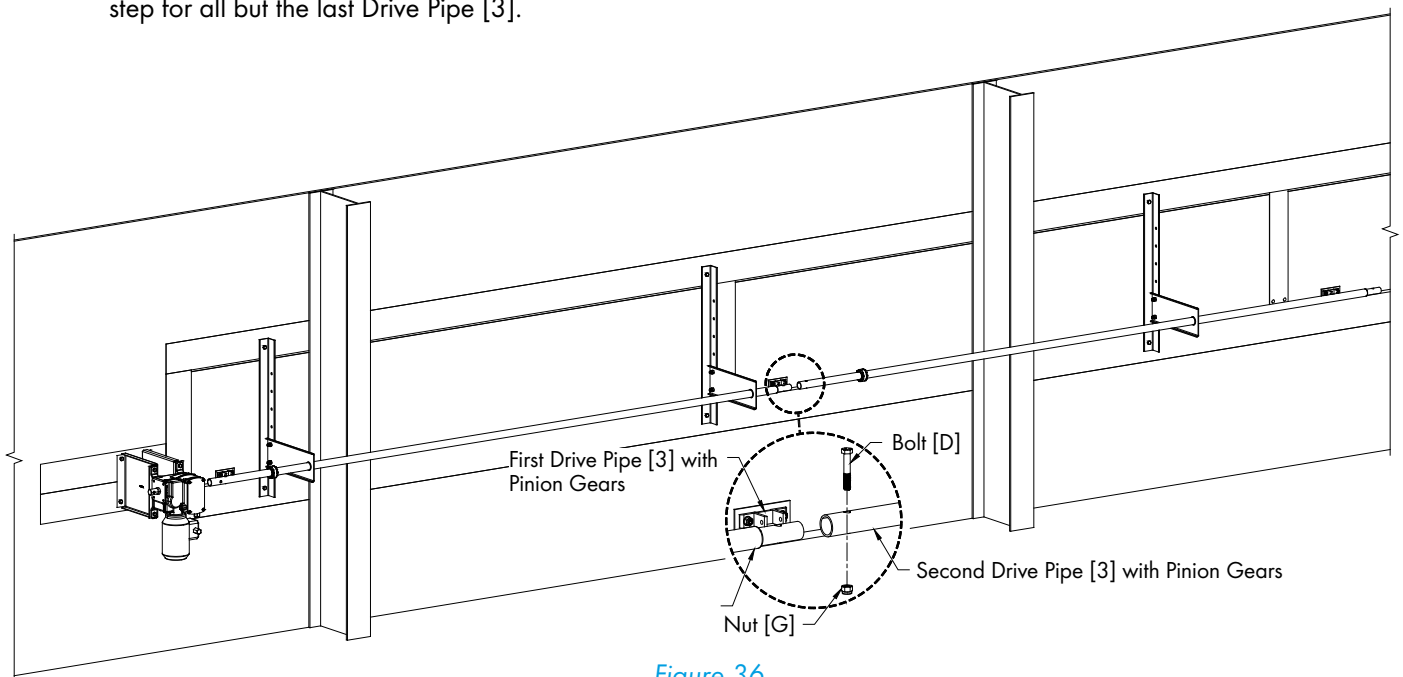

Figure 36
For next Drive Pipe [3] slide (1) Pinion Gear onto Pipe, then slide the swaged end of the Drive Pipe through the next Bronze Bushing in Guide Plate [13]. Then slide the opposite end onto the swaged end of the previous pipe. If needed slide the Pinion Gear past the joint in the pipes to align with the Pivoting Connector. Align the pre-drilled holes and secure pipes together using Bolt [D] and Nut [G]. See Figure 36. Repeat this step for all but the last Drive Pipe [3].